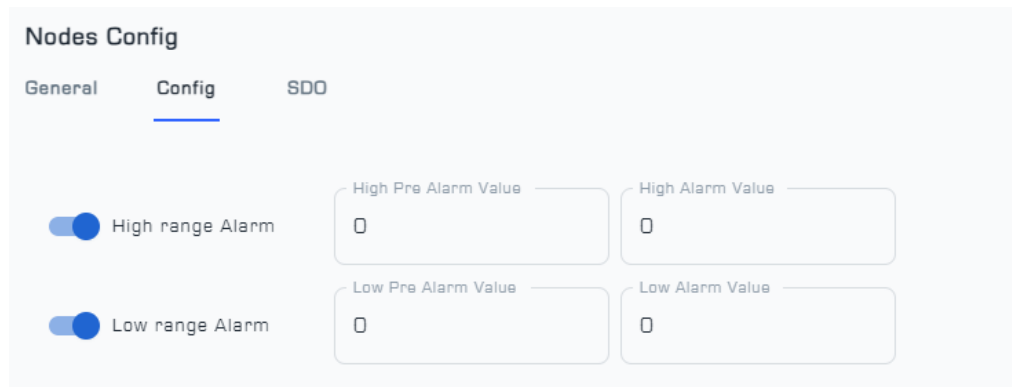

Figure 6: Config Menu from Node Config
- In the Config menu of the single-channel 20-4 mA Node, as shown in Figure 6, the alarm settings of the Node can be configured. The High Alarm Value and High Pre-Alarm Value are related to setting the alarm and pre-alarm for the maximum danger value for the Node, and the Low Alarm Value and Low Pre-Alarm Value are related to setting the alarm and pre-alarm for the minimum danger value for the Node.